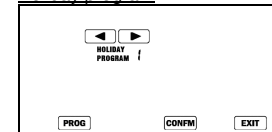

Fig7.
1. In program mode, Press **PROG** enter to Holiday program(see Fig7).